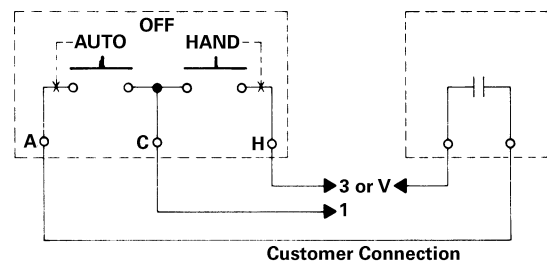

Figure 2
4. For the 3-position selector switch, make electrical connections as shown in figures 2, 3, or 5.